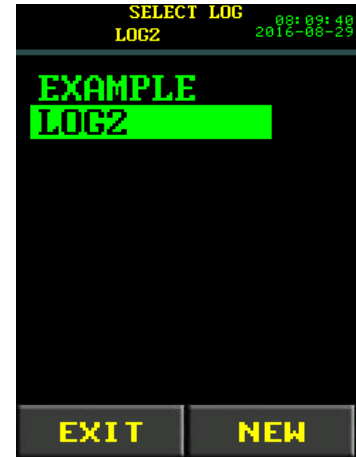

Figure 4.5-7: Select Log Screen
3. The log list will be displayed with the current log highlighted (Figure 4.5-7).